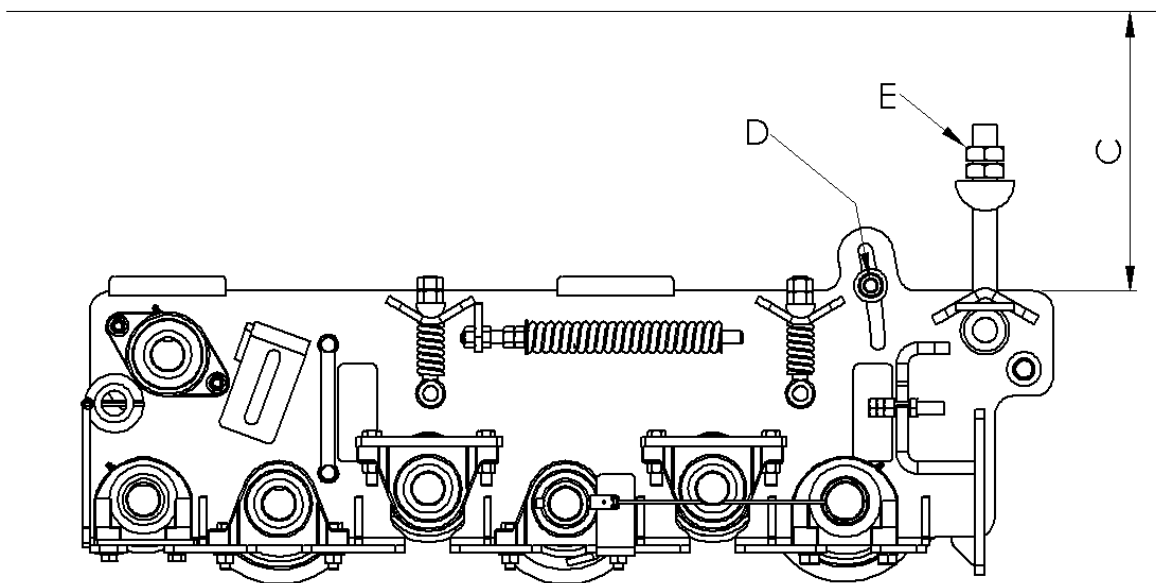

Figure 7-26: Grabroll Bed Angle
3. Loosen nut (D), shown in figure 7-26.
4. Adjust eyebolt (E) for the desired bed angle.